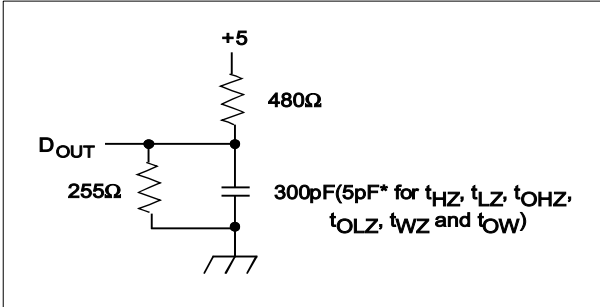

Figure 1. Output Load
- 8. Transition is measured ± 200 mV from steady state voltage prior to change, with loading as specified in Figure 1.
Output Load	See Figures 1 and 2